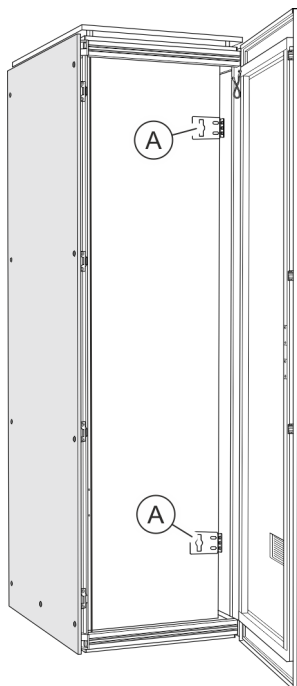

Fig. 15: Rack with mounting brackets
3. ➤ Remove the mounting brackets (Fig. 15/Ⓐ) from the PDU and screw them onto the rack in the positions marked.